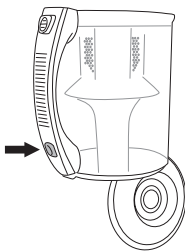

Figure 11
4. Press the button in the handle to open the bottom flap (see Figure 11).